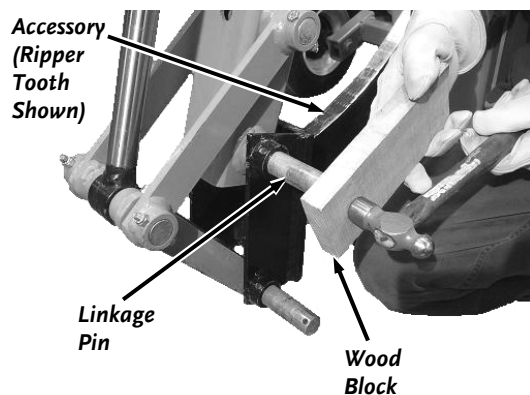

Figure 39
5. Install the two Linkage Pins into the Bucket or Ripper Tooth and Linkage (**Figure 39**).